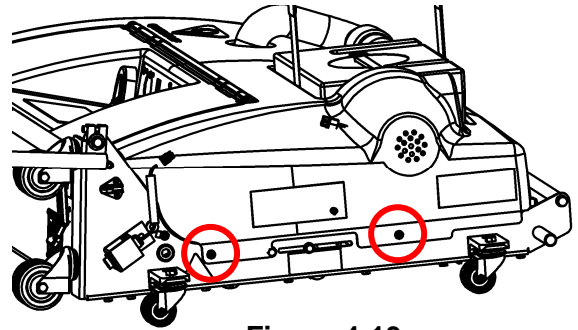

Figure 4-13
1. Unlatch the oil compartment door latches, disconnect the vacuum hose and remove the waste tank, remove the cap from the cleaner tank, remove the two screws from each side of the hood (see Figure 4-13), and lift the hood from the frame. Set the screws aside.